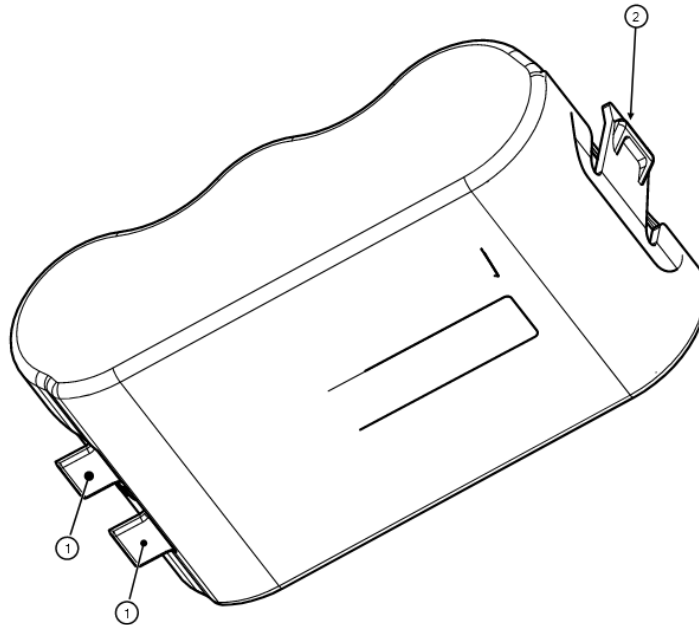

Figure 6: placement of battery packs
Status LED	Condition LED (see figure 6)
- The Encoder status LED will show the status of the initialization (see table 7 and figure 6).
When placing the battery pack (s), it is important that the notches (see figure 6, pos. 1) are placed in the right way and that the tab (see figure 6, item 2) is secured with a click in the housing